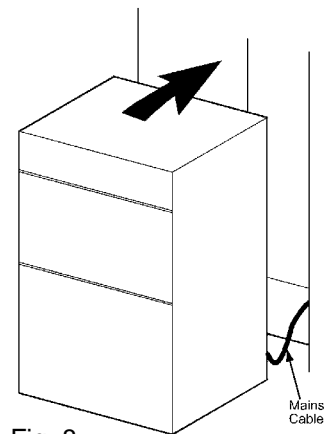

Fig. 8
- Position the appliance in front of the cabinet. See Fig. 8.
- 5) To set the 'End of cooking'. Press the Time Functions control button until the 'End of cooking' indicator neon flashes. Press the increase control ( + ) until the required stop time is displayed, e.g. 12.15 p.m. as Fig. 8. If necessary depress the decrease control ( - ) until the correct time interval is achieved.